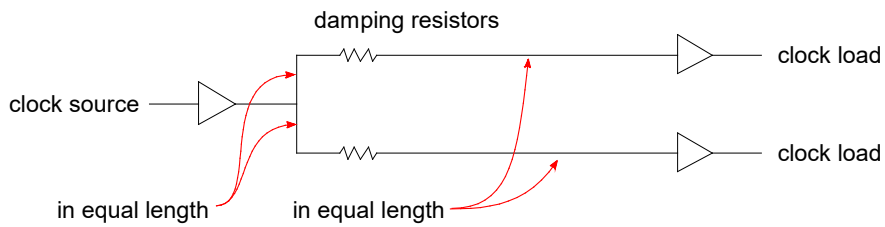

Figure 9: Series termination for multiple clock loads
- Series terminations (damping resistors) are needed for all clock signals (typically 0 to 47 ohm Ω). When two loads are driven by one clock signal, the series termination layout is shown in Figure 9. When multiple loads (more than two) are applied, a clock buffer solution is preferred.